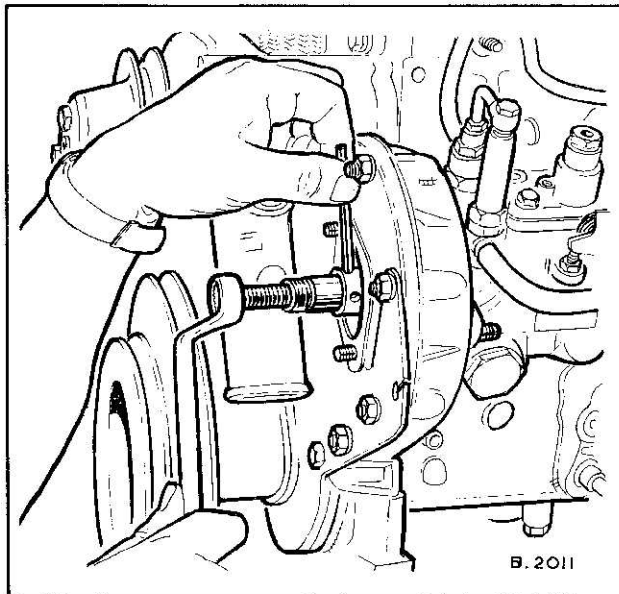

Fig. 5
8. Fit special extractor to pump gear and release pump gear (Fig. 5). Remove pump ensuring that key does not fall into timing case.